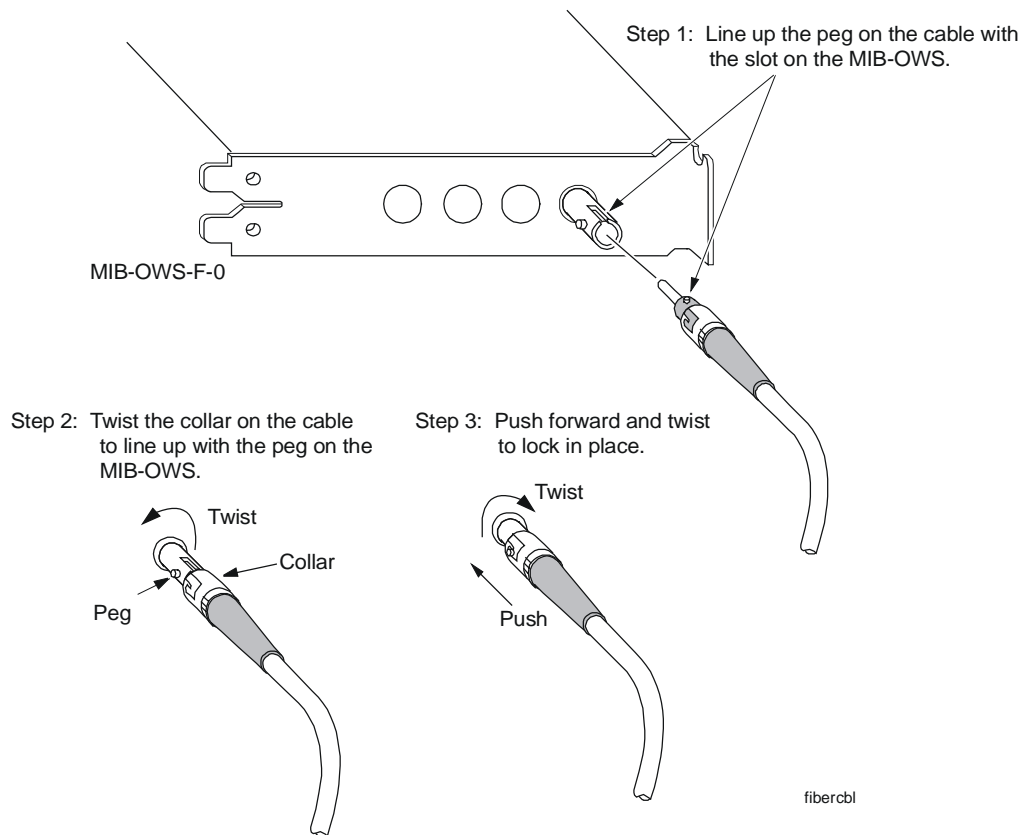

Figure 31: Connecting Fiber Optic Cable to MIB-OWS
1. Line up the peg on the fiber optic cable connector with the slot on the top of the MIB-OWS receptacle (Figure 31).